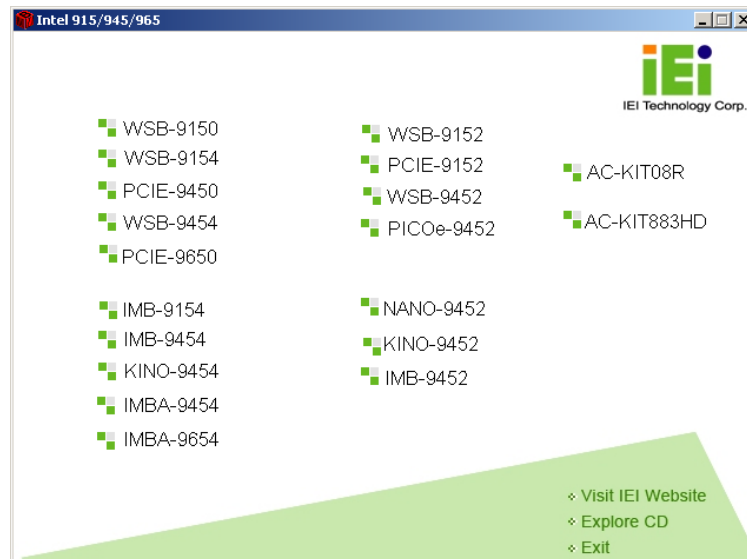

Figure 7-1: Introduction Screen
Step 3: Select PCIE-9450 from the main menu shown in **Figure 7-1**.